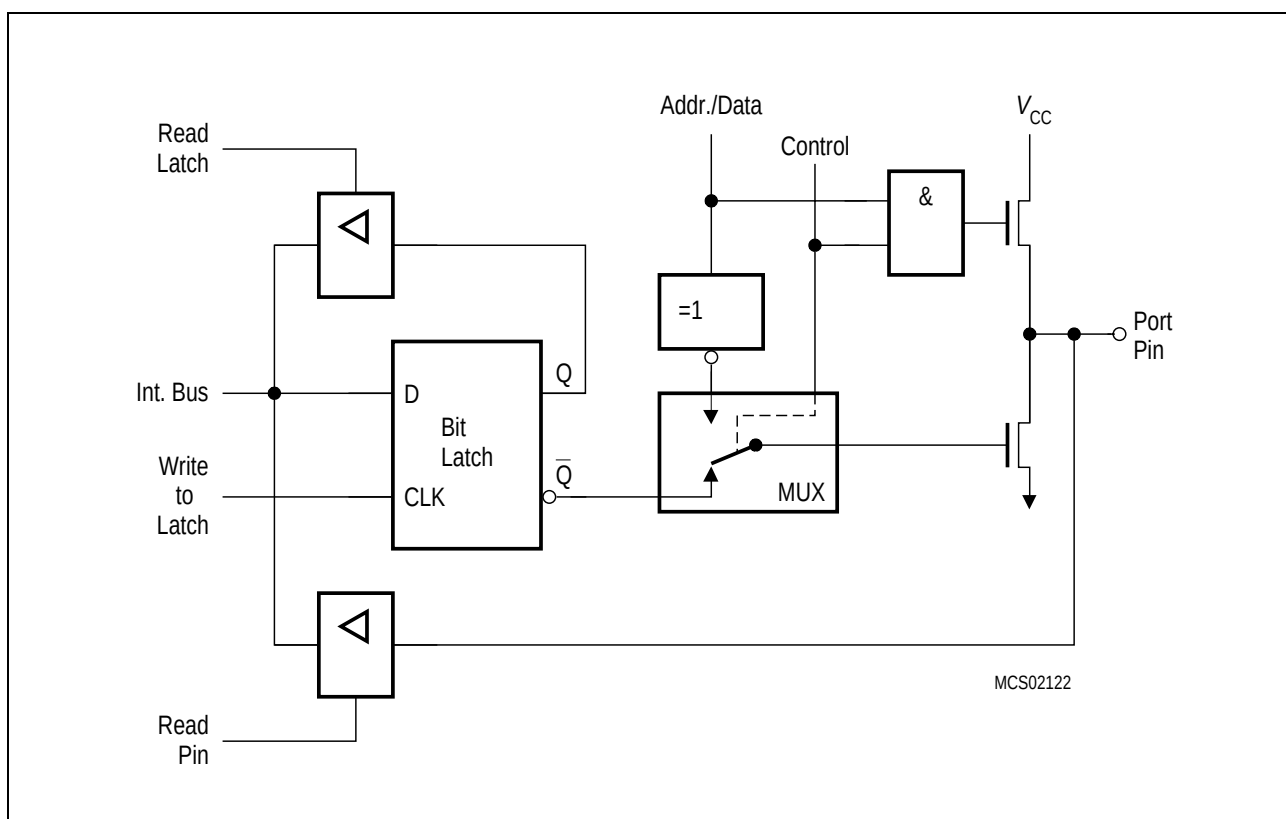
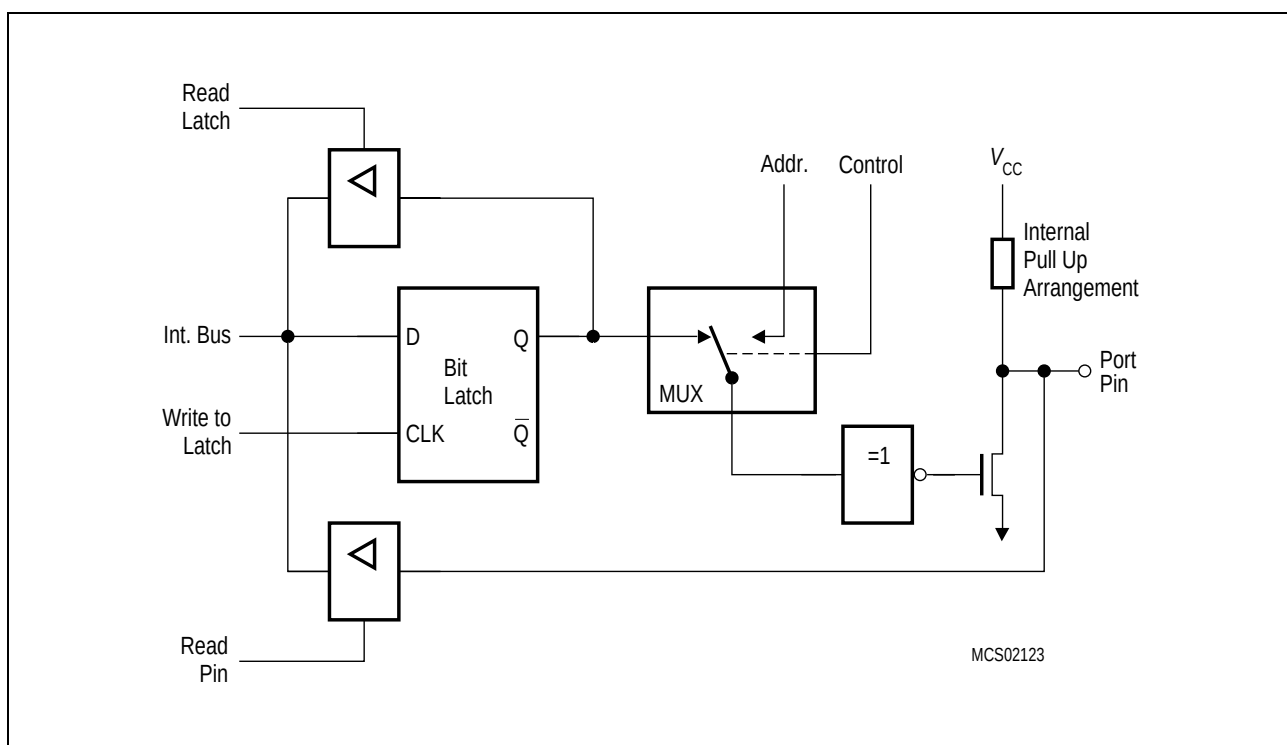

Figure 6-7
Figure 6-8
Port 0, in contrast to ports 1, 2 and 3, is considered as “true” bidirectional, because the port 0 pins float when configured as inputs. Thus, this port differs in not having internal pullups. The pullup FET in the P0 output driver (see **figure 6-7**) is used only when the port is emitting 1s during the external memory accesses. Otherwise, the pullup is always off. Consequently, P0 lines that are used as output port lines are open drain lines. Writing a “1” to the port latch leaves both output FETs off and the pin floats. In that condition it can be used as high-impedance input. If port 0 is configured as general I/O port and has to emit logic high-level (1), external pullups are required.
As shown in **figure 6-7** and below in **figure 6-8**, the output drivers of ports 0 and 2 can be switched to an internal address or address/data bus for use in external memory accesses. In this application they cannot be used as general purpose I/O, even if not all address lines are used externally. The switching is done by an internal control signal dependent on the input level at the $\overline{EA}$ pin and/or the contents of the program counter. If the ports are configured as an address/data bus, the port latches are disconnected from the driver circuit. During this time, the P2 SFR remains unchanged while the P0 SFR has 1's written to it. Being an address/data bus, port 0 uses a pullup FET as shown in **figure 6-7**. When a 16-bit address is used, port 2 uses the additional strong pullups p1 to emit 1's for the entire external memory cycle instead of the weak ones (p2 and p3) used during normal port activity.